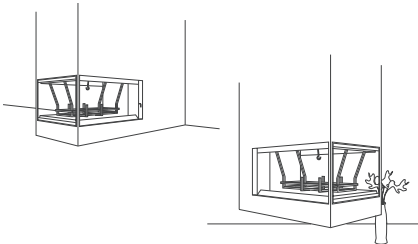

Figure 2 - Common Location of Fireplace
1. The location must allow for proper clearances (see Figure 2).